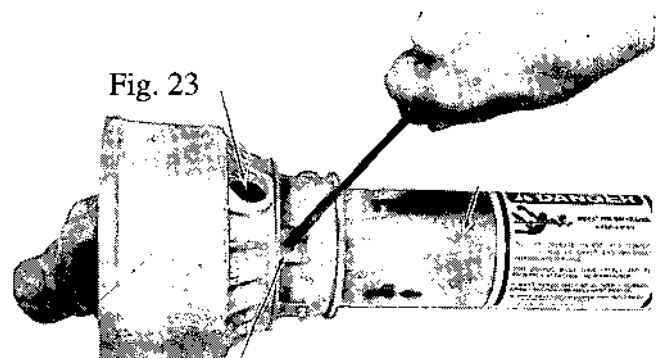

Fig. 23
- 2 Driveline Guard - Apply 2-3 shots of grease to plastic fitting using grease gun (Fig. 23).